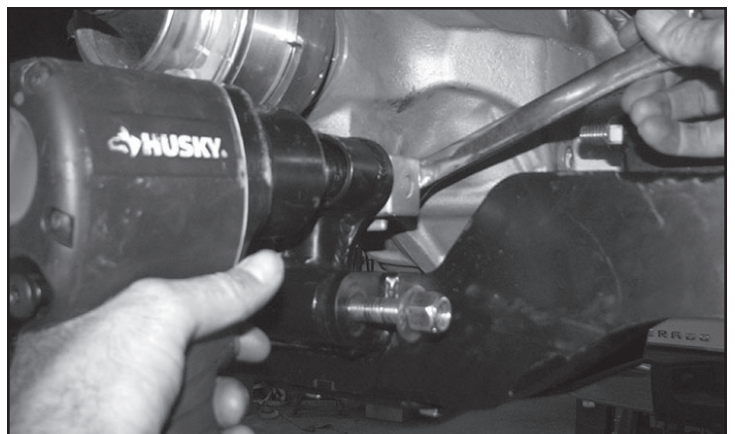

FIGURE 37 - STEP 37
37. Install a $\frac{1}{2}$ -13x2 bolt, washers and nut through the bracket and diff. Torque the bolt in the diff to 90 ft-lbs and the bolt in the crossmember to 90 ft-lbs. **SEE FIGURE 37**